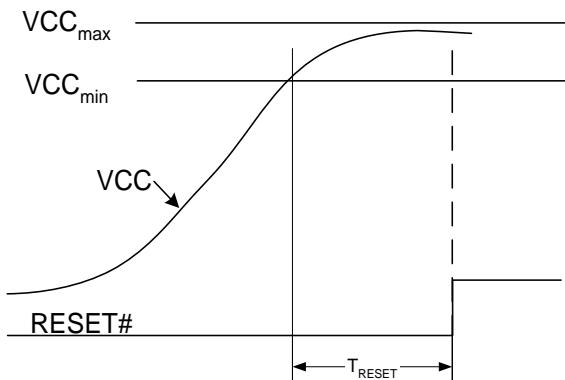
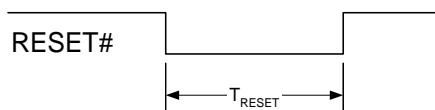

Figure 4.8. Conditions for Use of RESET#
Figure 4.9. RESET# Minimum Timings
1. Reset on RESET# signal can be LOW as the supply becomes stable (shown in Figure 4.8), or pulled LOW for at least  $T_{RESET}$  (shown in Figure 4.9).
VCC must be stable between its limits for Normal Operating Conditions for  $T_{RESET}$  before RESET# goes HIGH, as shown in Figure 4.8. Before accessing registers, RESET# must be pulled LOW for  $T_{RESET}$ . This can be done by holding RESET# LOW until  $T_{RESET}$  after stable power, as described above, or by pulling RESET# LOW from a HIGH state for at least  $T_{RESET}$ , as shown in Figure 4.9.